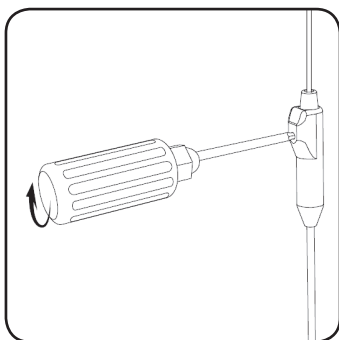

Figure 19. Secure the lead by tightening the setscrew clockwise onto the retention sleeve.
5. Fully insert the torque wrench into the hole of the percutaneous extension connector block. Tighten the setscrew by turning the torque wrench clockwise until it clicks (**Figure 19**).